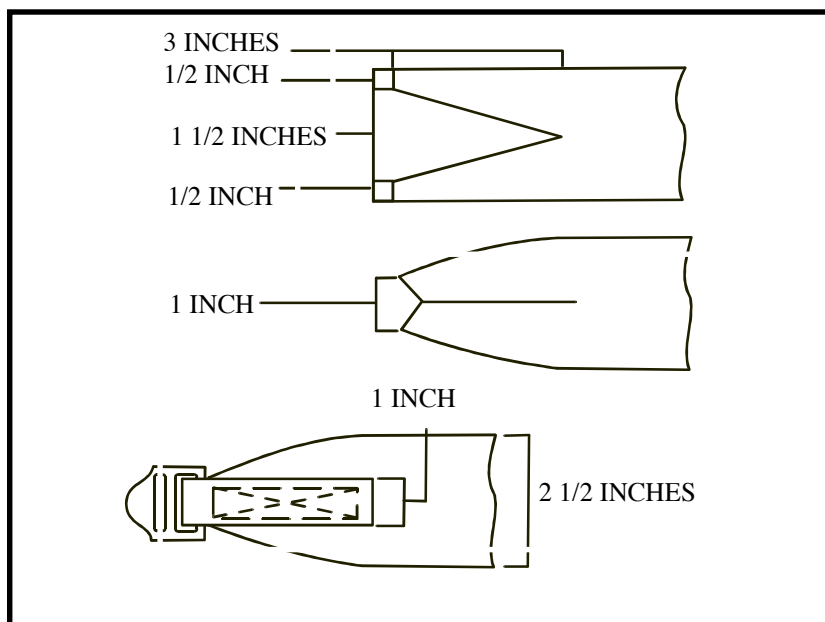

Figure 13-17. Shaped-end strap
d. Shaped-End Strap. A strap with a shaped end (Figure 13-17) is notched, the edges are brought together, and a billet or chape is sewn in place. A piece of reinforcement webbing is usually placed under the shaped end and sewn in place when a billet is attached.